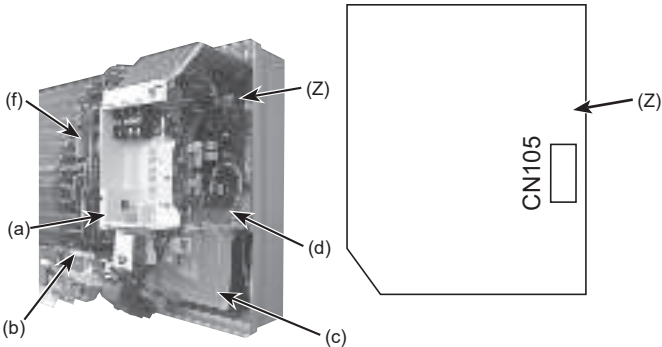
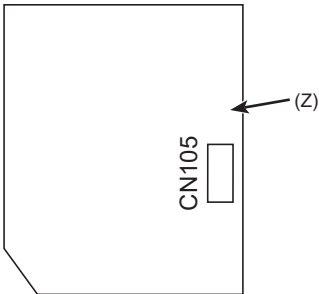

Fig. 6-5
Fig. 6-6
- (8) Remove the cable guide. (Fig. 6-5)
- (10) Remove the liquid pipe thermistor (TH2). (Fig. 6-5)
- (11) Tear off the tape partly of vane motor and loosen the cord. (Fig. 6-5)
- (12) Loosen the cord of the fan motor. (Fig. 6-5)
- (13) Pull out the electrical box toward you.
- (14) CN105 is on the indoor controller board. (Fig. 6-6)
- (15) Replace the removed parts.
- (R) Front grille
- (S) Screws
- (T) Screws and screw caps
- (U) Screw of the corner box
- (V) Hooks
- (W) Screw of electrical box cover (side)
- (X) Screw of electrical box cover (Front)
- (Y) Water cut
- (Z) Indoor controller board (I.B.)